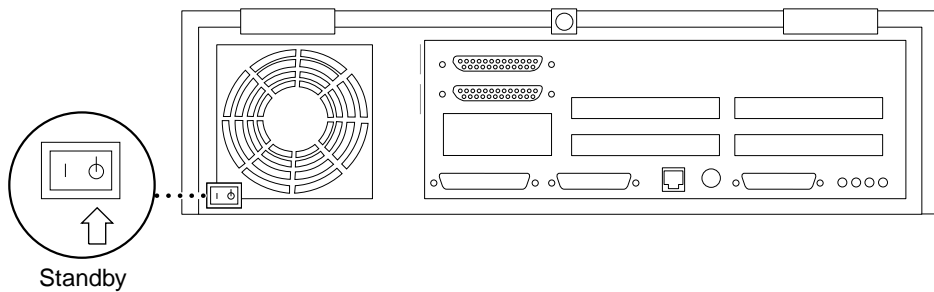

FIGURE 2-1 Standby Switch
- 5. Remove DC power from the system by pressing the Standby side of the power switch on the back panel (FIGURE 2-1).**